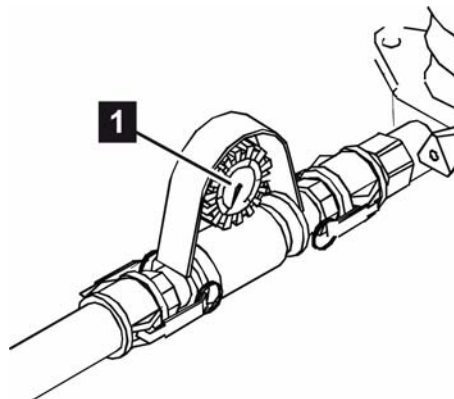

Fig. 39: Mortar pressure at 0
2. On the mortar pressure manometer (*Fig. 39/1*) always check whether mortar pressure has dropped to 0.